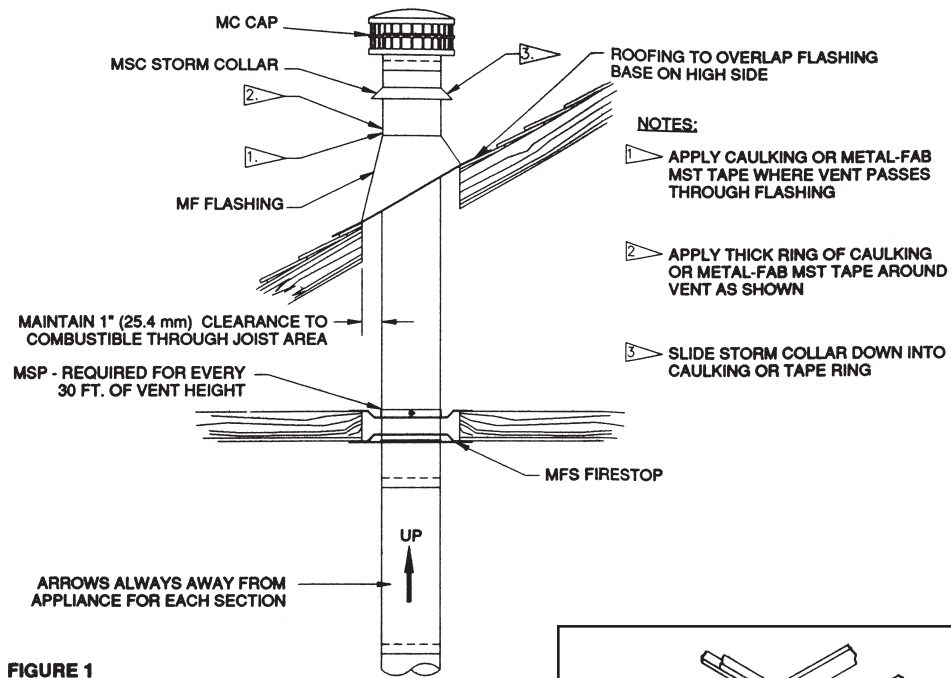

FIGURE 1
2. If this is a single, straight up installation, and the B-Vent must penetrate the ceiling, cut a hole in the ceiling 2 inches (51 mm) larger than the outside diameter (OD) of the outer casing. The B-Vent is to be centered in this opening. When installed, check to make sure the one inch (25.4 mm) clearance to combustible has been maintained. (See Figure 1).
4. Continue with B-Vent penetrating the roof. NOTE: For Canadian installations, use labeled ULC section, designated with Suffix G, on vent sections exposed to atmosphere. At the roof, the opening should be 2 inches (51 mm) greater than the B-Vent OD. Above the roof, a flashing is required to maintain the one inch (25.4 mm) clearance to the combustibles of the roof. Installation of a storm collar allows water to drain over the flashing. Caulk as shown in Figure 1.
5. Install the B-Vent cap (MC) onto the B-Vent. NOTE: See height of vents under "SAFETY".